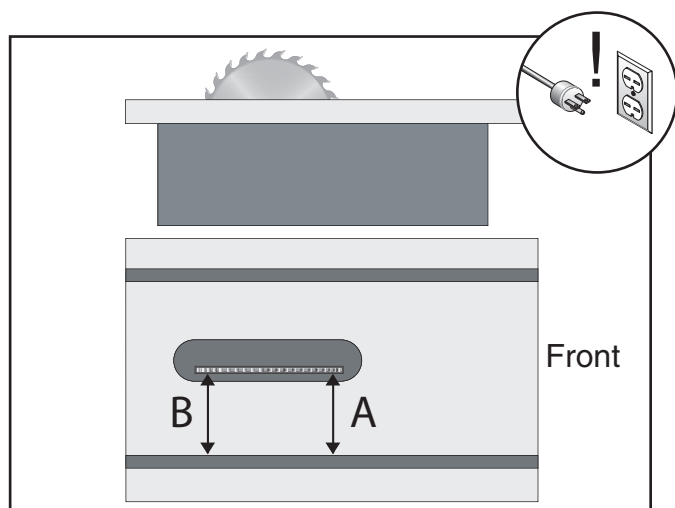

Figure 56. 90° blade parallelism measurement.
3. Using an adjustable square, measure the distance (A) between the miter slot and the front of the blade as shown in **Figure 56**.